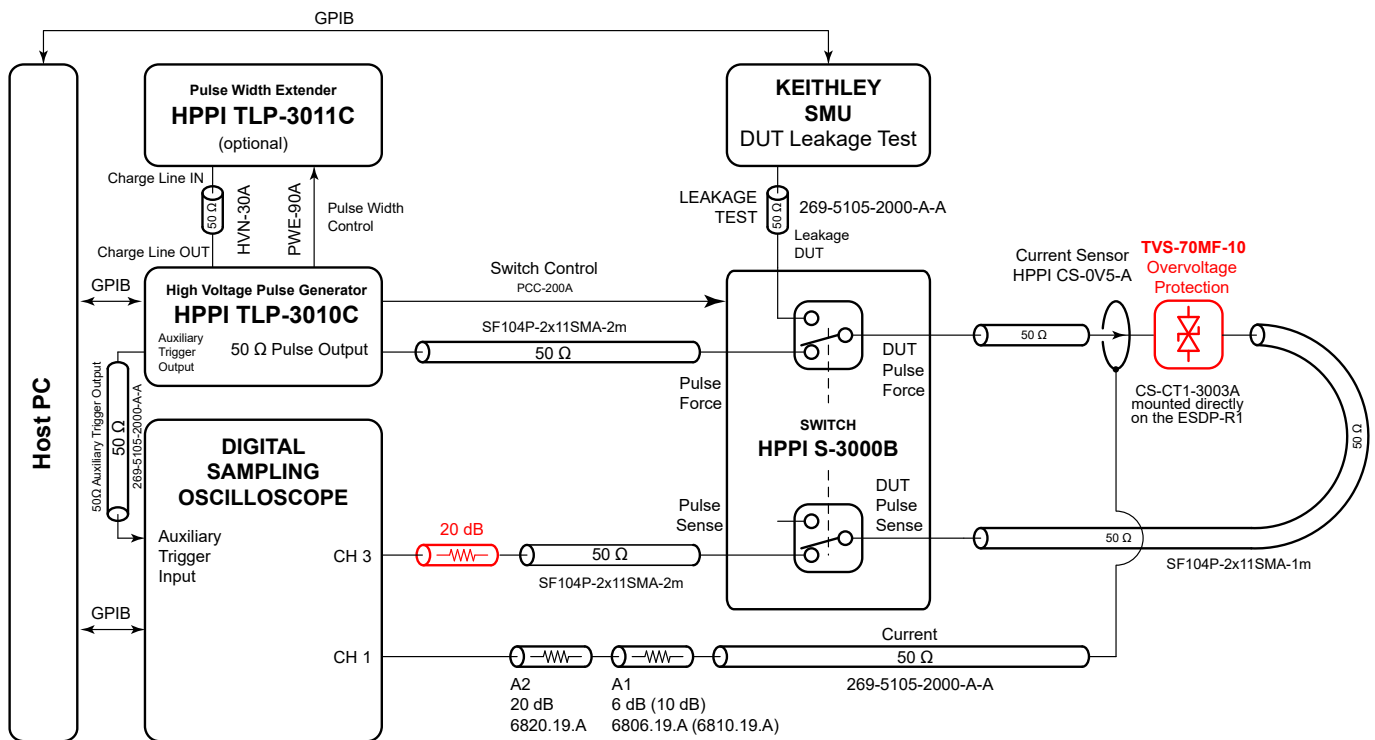

Figure 9: TLP test setup.
- Connect the TVS-70MF-10 in the TLP test setup as shown in Fig. 9.
- Take care that the additional 20 dB attenuator is connected in front of the oscilloscope input channel 3 (see Fig. 9).
- Set-up the TLP system according to Fig. 9.